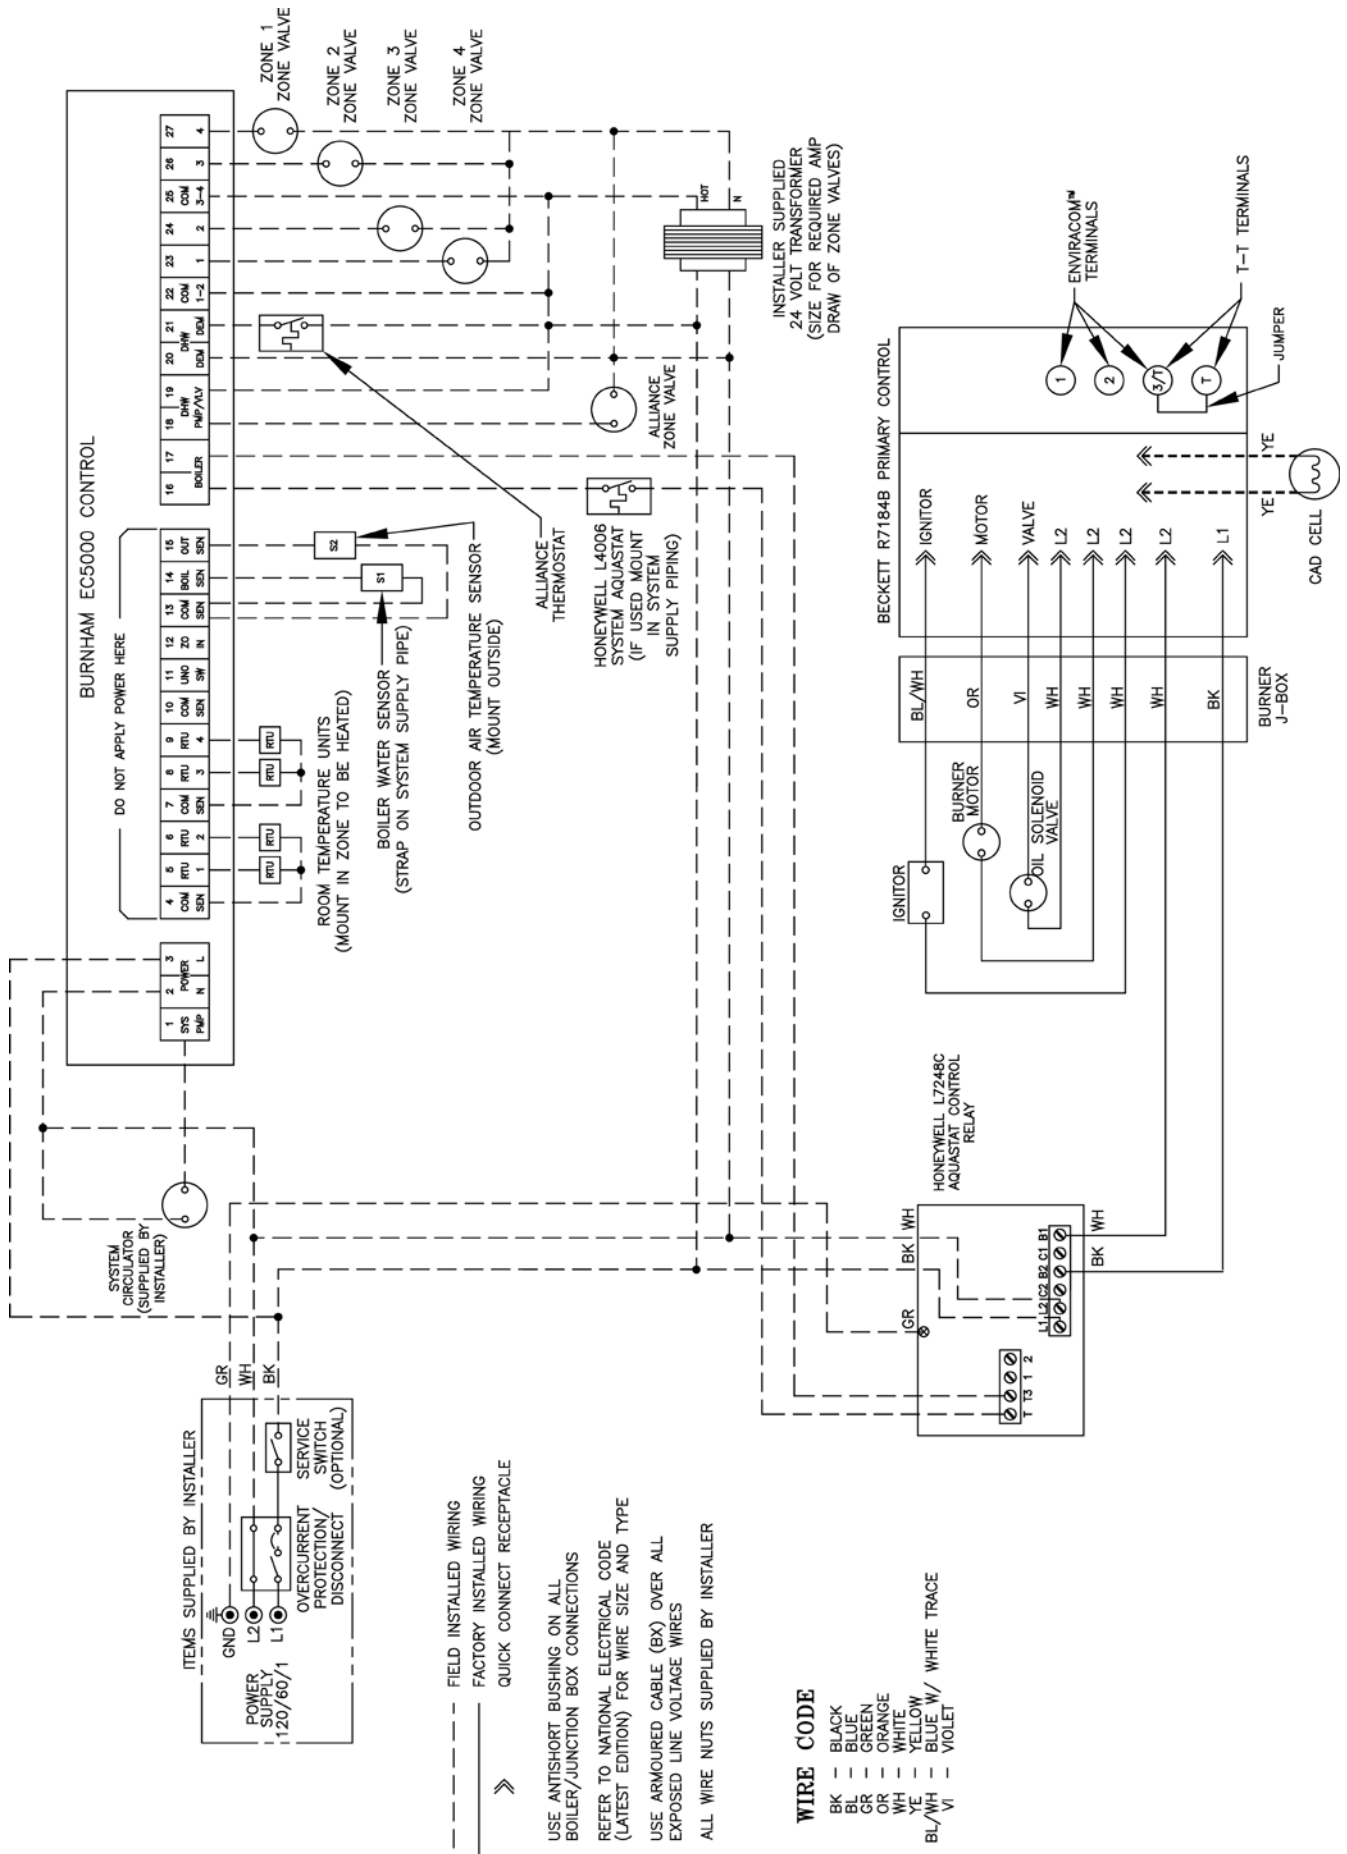

Figure 19: Zone Valve Zoned with EC5000 Wiring Schematic
9. Burnham EC5000 Zone Valve Zoned System – Refer to Figure 19 of this manual for the electrical diagram for this type of system. Wire the system as indicated in that diagram. Refer to the manual provided with the Burnham EC5000 for control operation and setup details.